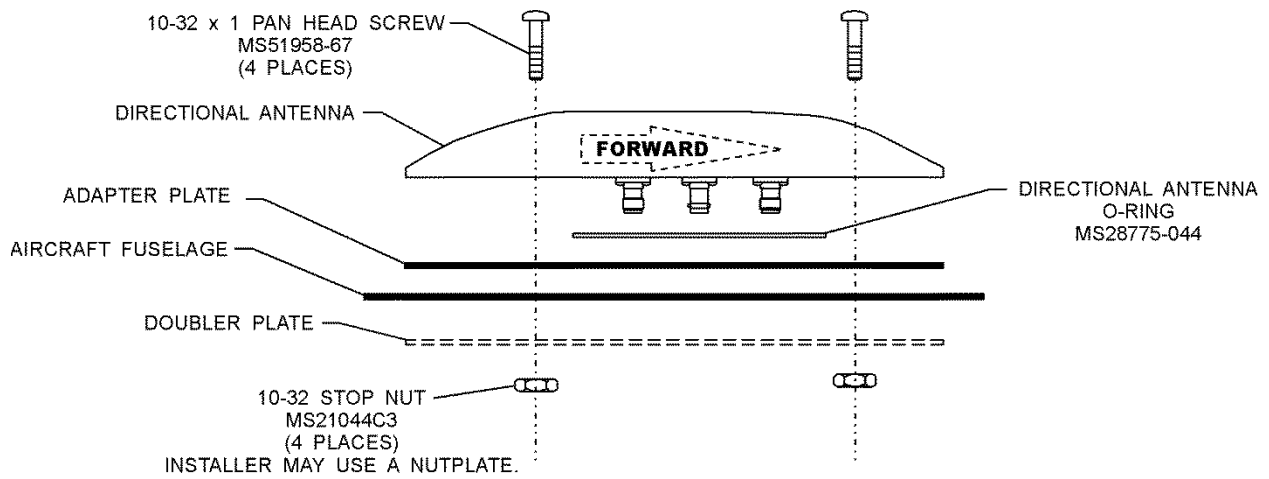

Figure 2-17: Directional Antenna Installation
3. Attach the antenna to the aircraft, with the special adapter plate and o-ring, using 10-32 hardware provided. See Figure 2-17.